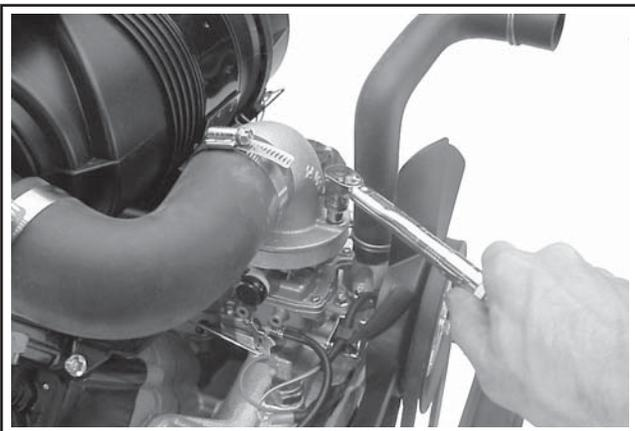
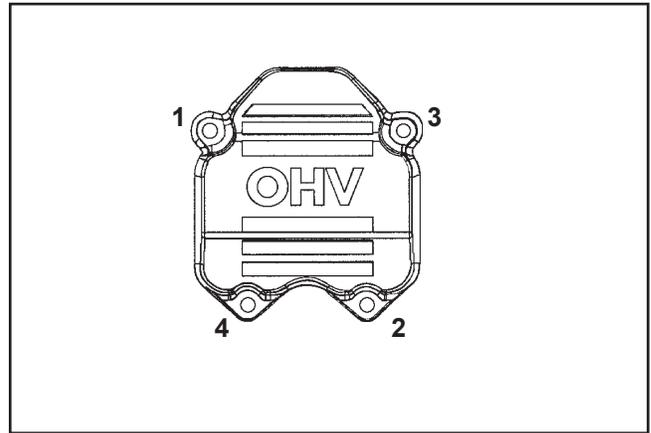

Figure 11-105. Torquing Elbow Mounting Screws.
Figure 11-107. Torque Sequence.
3. Torque the two elbow mounting screws to 7.3 N·m (65 in. lb.). See Figure 11-105. Then torque the eight valve cover mounting screws to 6.2 N·m (55 in. lb.) in the sequence shown in Figure 11-107.